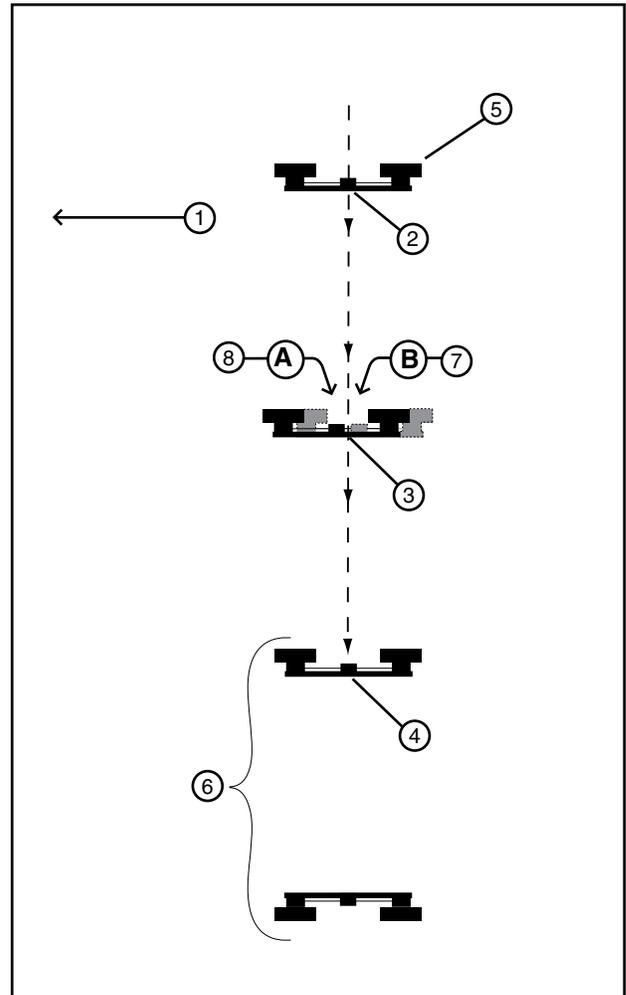

Figure 99-1 1. Direction of Travel 5. End Tower
2. Begin the alignment procedure from an end tower. Identify the first three towers as 1, 2, and 3. Use towers 1 and 3 to align tower 2. See Figure 99-1.
3. Sight an imaginary center line between the center of the tower drive motor 1 to the center of the tower drive motor 3. See Figure 99-1.
4. Observe the movement of the tower drive motor 2. It should start and stop equal distances from the imaginary center line. See Figure 99-1.